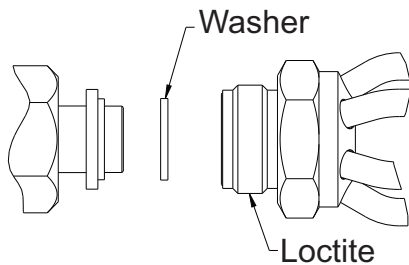

Fig. 1 - TXV Thread (Sealer) Location
a. The TXV attaches to the distributor with 13/16" chatleff nut. The threads contain Loctite anti-seize that can be reused. (See Fig. 1)
2. Remove and discard the indoor piston, being careful not to damage the piston body assembly or the sealing of the Teflon retainer washer. Replace retainer washer if damaged. (See Fig. 1)